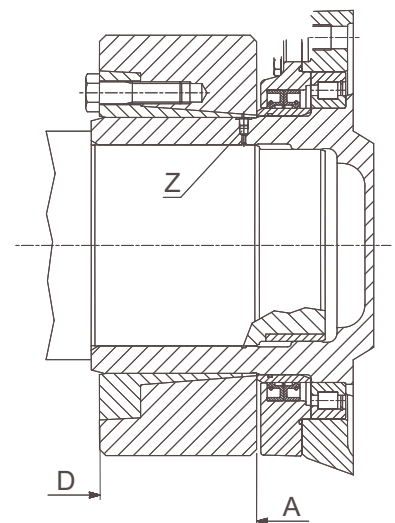

Fig. 2
- Refit cap "Z" (see fig. 2), then position the coupling (see fig. 2 point A).
- When the fitting of the coupling has been completed correctly, check the assembly visibly to make sure that the front surfaces of the internal and external rings are on the same plane (see fig. 2 point D).
- Before reinstalling the overhauled coupling, top up with lubricant in the zones marked “C” (see fig. 2).